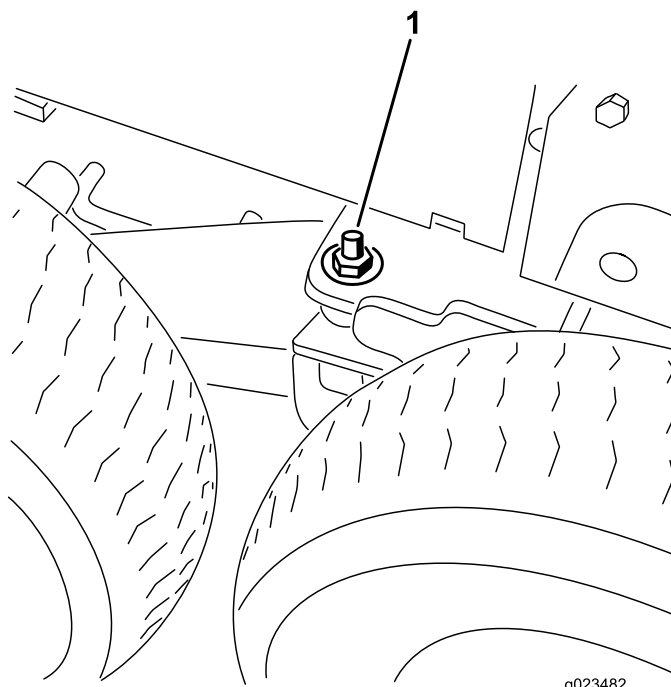

Figure 29
20. Remove the 1/2 inch flat washer and the 1/2 inch nut installed on the stud on the bogie pivot (Figure 29).
26. Lower the floor jack until the front wheels support the frame. Install the flat washers (1/2 inch) and locknuts on the bogie-pivot stud (Figure 29) and torque to 75 ft-lbs (102 N-m).